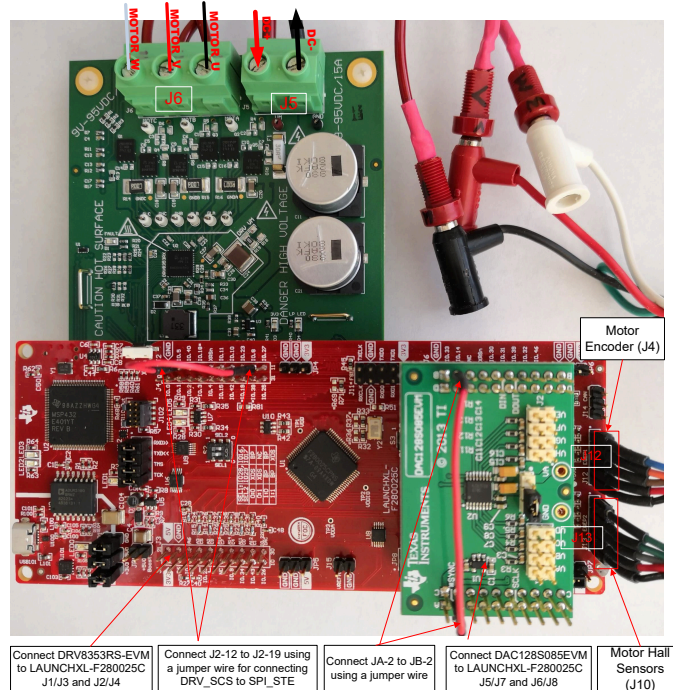

Figure 2-8. LAUNCHXL-F280025C Connects DRV8353RS-EVM and DAC128S085EVM
- Make sure that the following items are set as described below, and then connect DRV8353RS-EVM to J1/J3 and J4/J2 site of LAUNCHXL-F280025C as shown in Figure 2-8.
- Connect the motor, encoder, and hall sensors to the kits as described in Table 2-2 and shown in Figure 2-8.